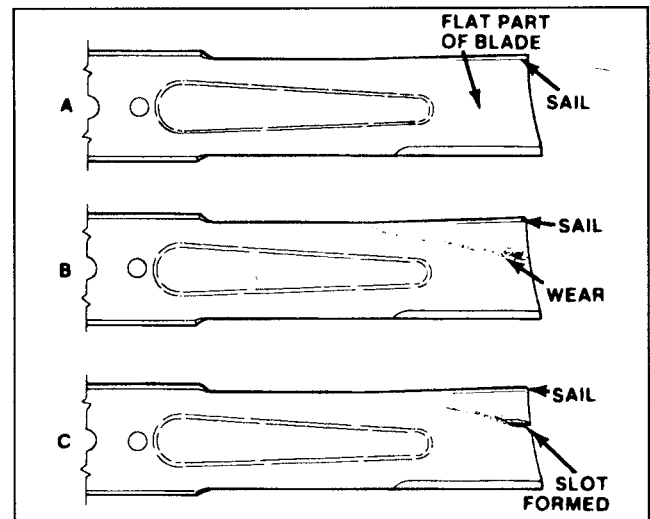

Figure 26
INSPECTING AND SHARPENING BLADE (Fig. 26 – 27)
4. Examine cutting ends of the blade carefully, especially where the flat and curved parts of the blade meet (Fig. 26–A). Since sand and abrasive material can wear away the metal that connects the flat and curved parts of the blade, check the blade before using the machine. If wear is noticed (Fig. 26–B), replace the blade: refer to Removing Cutter Blade.
If blade is allowed to wear, a slot will form between the sail and flat part of the blade (Fig. 26–C). Eventually a piece of the blade may break off and be thrown from under the housing, possibly resulting in serious injury to yourself or bystander.